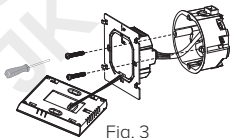

Fig. 3
3. Mount the installation plate on the wall using the supplied screws (Fig. 3).